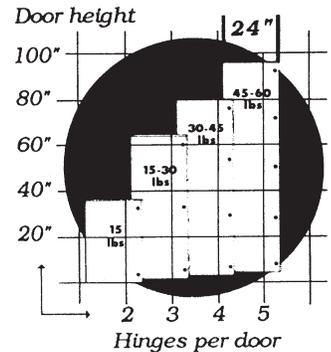

Fig. 1
- Decide on the number of hinges you want to use and mark their centerline (C/L) locations on the back of the door (see Figure 1).